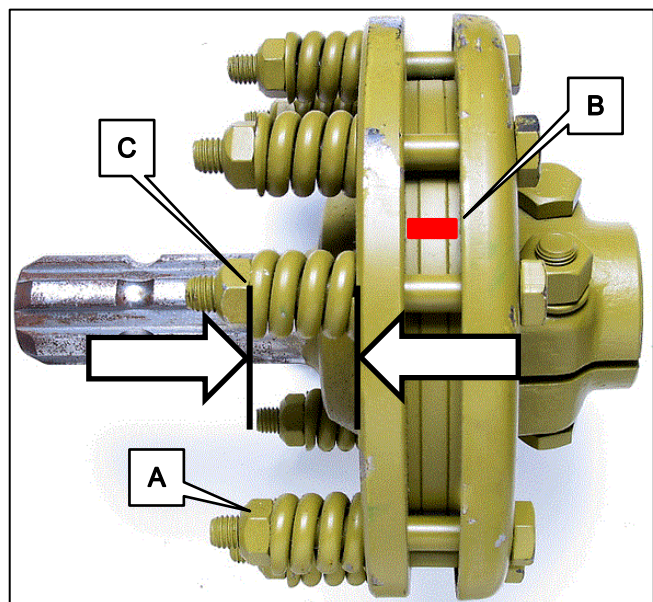

Figure 8.1
- 8.4.1.2 Loosen the nuts on all springs, see Figure 8.1 (A), just until the springs can freely rotate, yet remain secure on bolts.
- 8.4.1.3 Mark the outer edge of the friction plates as shown in Figure 8.1 (B).
- 8.4.1.8 If the above power test is successful and the marks are not aligned, then tighten the nuts on the springs to their original position, see Figure 8.1 (C), and replace all guarding.